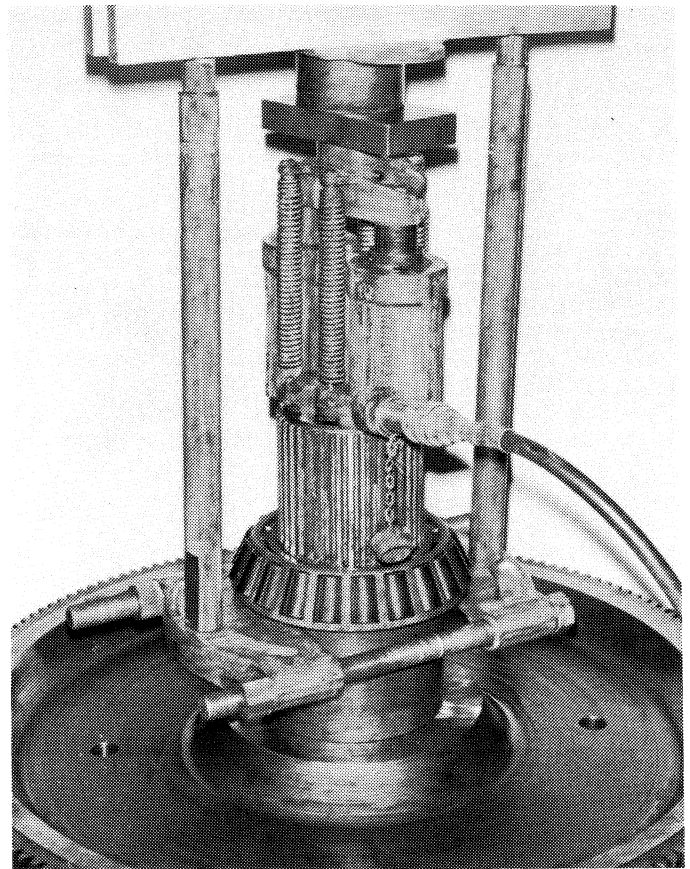

Figure 6-34. Removing Rear Bearing Inner Race from Output Shaft.
1. Use a bearing puller to remove the front and rear roller bearing inner races (Figure 12-5, 2 and 5) from the output shaft. See Figure 6-34.